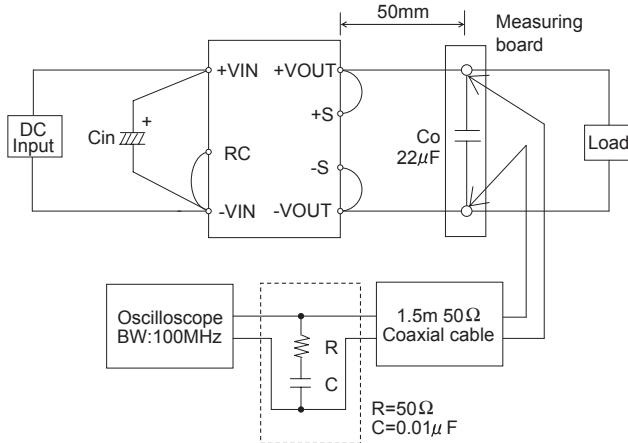

Fig.3.3 Measuring method of Ripple and Ripple Noise
■ Ripple and Ripple Noise are measured, as shown in the Fig.3.3. Cin is shown in Table 2.1.